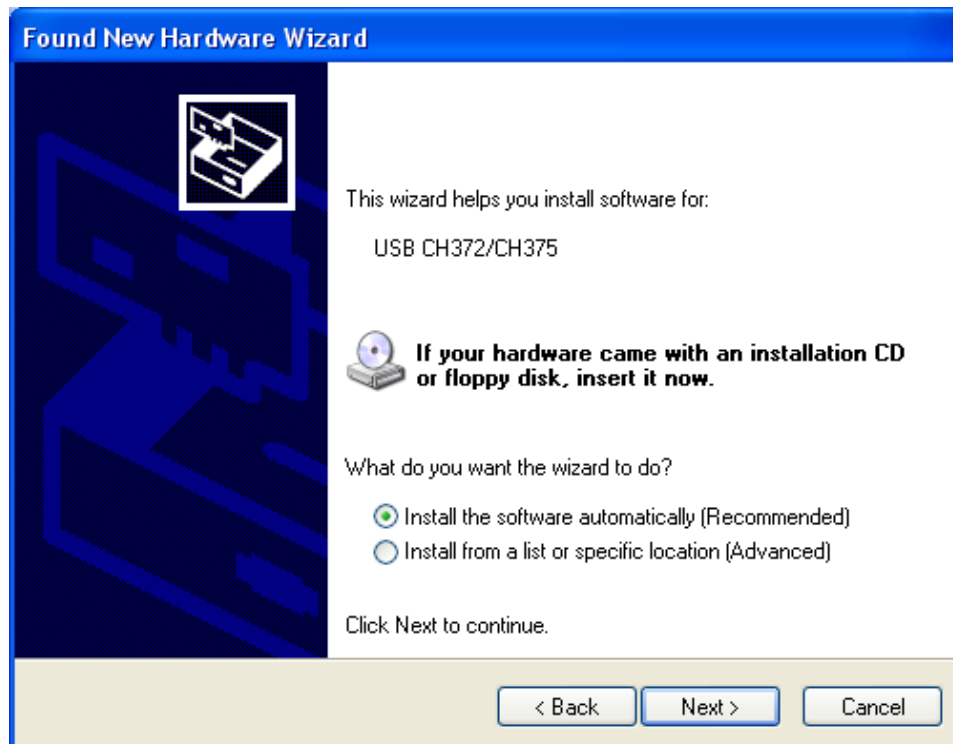
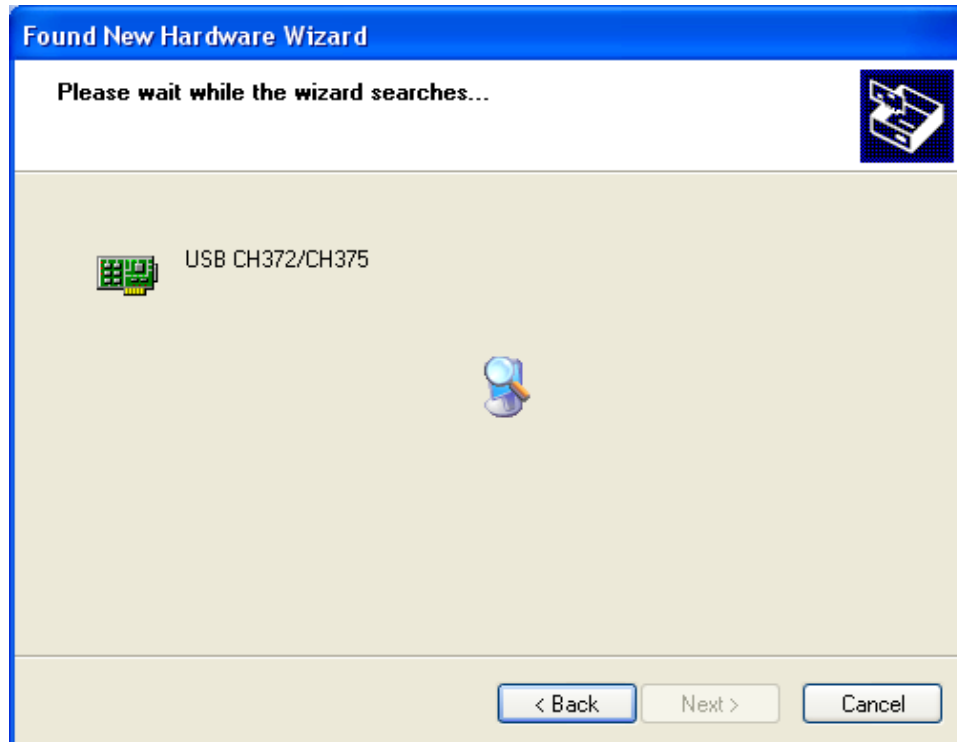
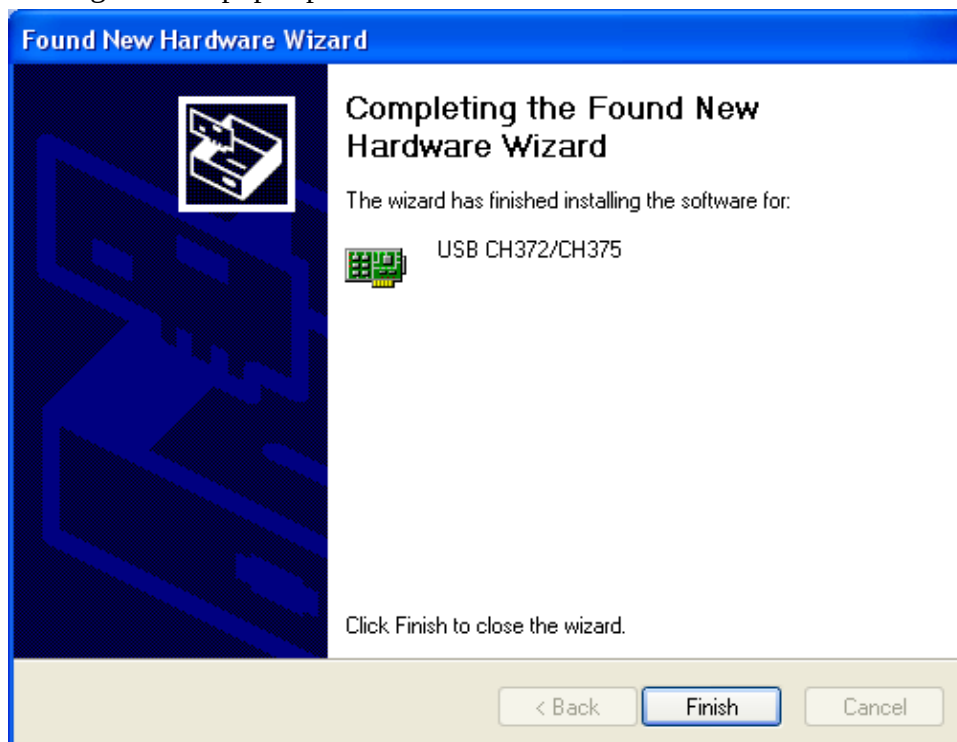

Figure 1-14
Figure 1-15
Figure 1-16
Then a “hardware update wizard” dialog box will pop up on the desktop, as shown in Figure 1-14.
3. In the new hardware wizard dialog box in Figure 1-14, select the “Install the software automatically” option, then click **NEXT** to enter the automatic driver search and installation page, as shown in Figure 1-15.
4. As shown in Figure 1-15, the hardware installation wizard of your digital storage oscilloscope begins searching and installing the USB driver for the oscilloscope communication and control software. When installation is complete the dialog box shown in Figure 1-16 pops up.
5. In Figure 1-16, click the **Finish** button. Your USB driver is now installed, and instant communication and control are enabled between the oscilloscope and the software. Please read “Chapter 3 : Operation guide for the oscilloscope communication and control software” prior to operation to familiarise with communication and control via the USB interface.